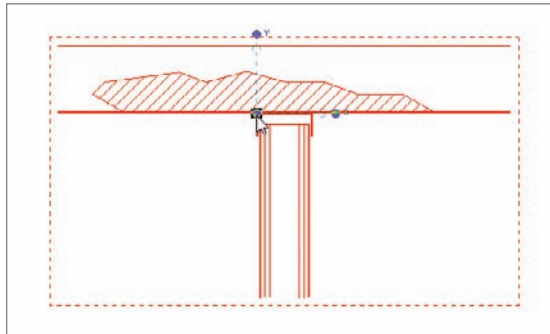

FIGURE 12.73 Move the origin to the location shown here.
4. The group has been created. You will see an icon similar to the UCS icon in AutoCAD. This is your origin. Pick the middle grip and drag it to the left corner of the track (where it meets the floor), as shown in Figure 12.73.